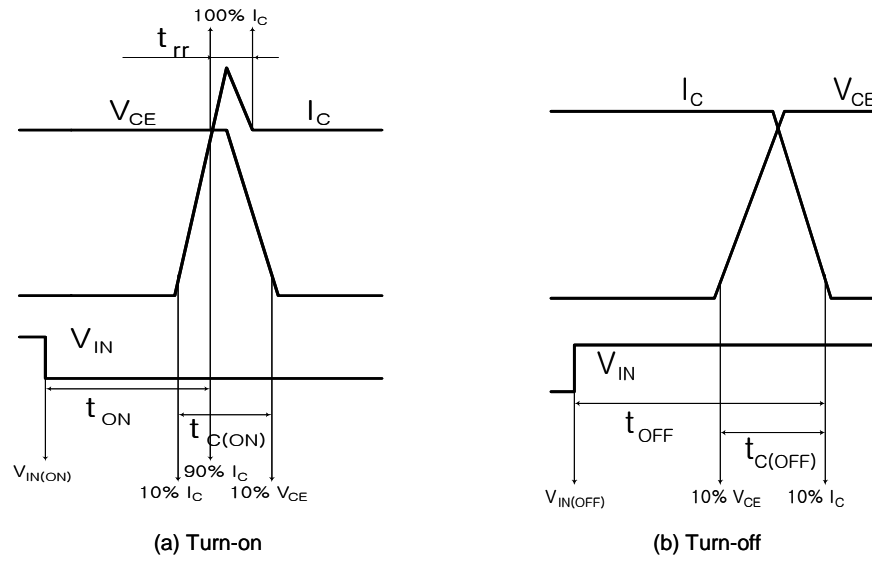

Fig. 4. Switching Time Definition
4. t_{ON} and t_{OFF} include the propagation delay time of the internal drive IC. $t_{C(ON)}$ and $t_{C(OFF)}$ are the switching time of IGBT itself under the given gate driving condition internally. For the detailed information, please see Fig. 4.